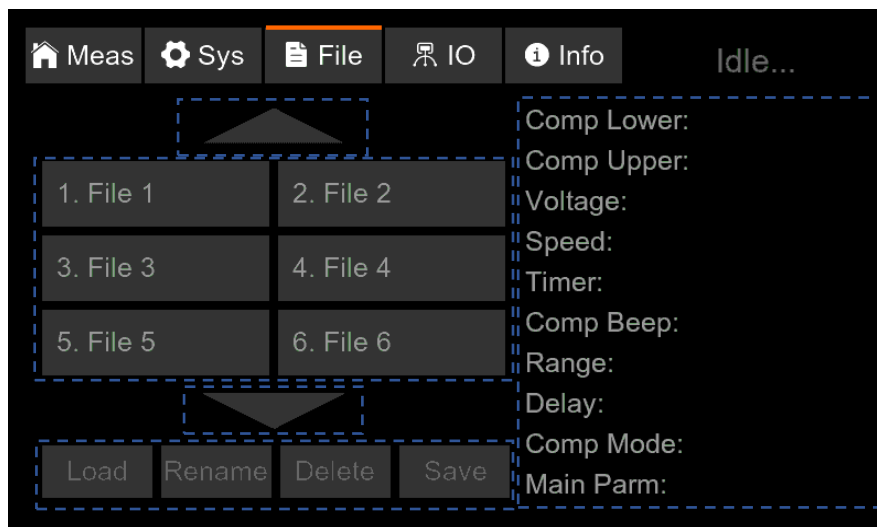

Figure 3-3 File Page
3~4V to the DUT first after the instrument starts the test to test whether there is a short-circuit condition. When the measured resistance value of the DUT is less than 100k Ω , the instrument determines that the DUT has a short-circuit condition. At this point, the main parameter area of the instrument displays Short and ends the test. If the short-circuit check passes, the instrument starts to apply the set voltage for the test, and the information bar at the bottom of the display prompts: "Short-circuit check time X ms, short-circuit check passes! (The test timing sequence is shown in Figure 3-3). (The test sequence is shown in Figure 3-2-4.1.) In addition, the short-circuit check time indicated in the message bar is not counted in the timer. If a longer short-circuit check duration is set manually, the instrument will indicate "SC" in the time detection area during the short-circuit check.
- (1) **Save Settings:** Select the file to be deposited, touch screen and click Figure 3-3 to **save**, an inquiry window will pop up, make sure to save the file. After the saving is completed, select the file, the right side of the file interface will display the setting conditions deposited in the file.
- (2) **Delete Settings:** Select the file to be deleted, touch the screen and click Figure 3-3 **Delete**, an inquiry window will pop up to determine the deletion of the file.
- (3) **Rename Settings:** Select the file that needs to be renamed, touch the screen and click Figure 3-3 **Rename**, enter the new file name in the pop-up keyboard window and confirm.
- (4) **Load Settings:** Select the file you need to load, touch screen to click Figure 3-3 **Load**, a pop-up window will ask you to determine the loading of the file. After loading is complete, the message bar prompts: "File loading is complete!"